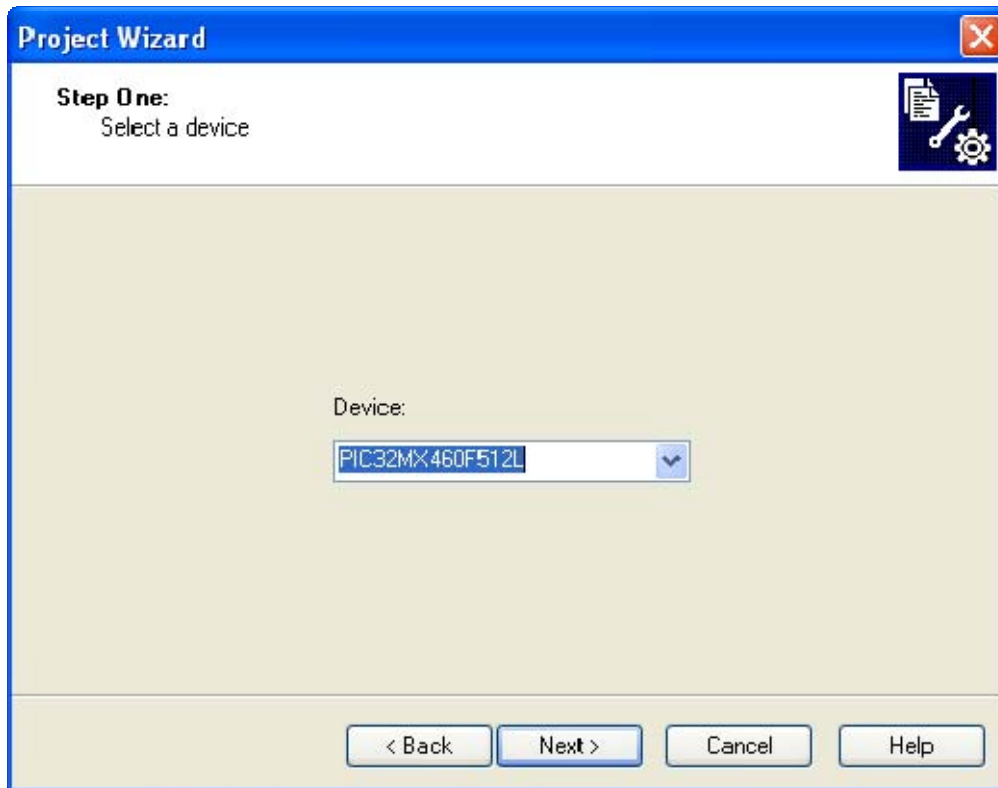

Figure 6: PIC32MX460F512L Device on Cerebot MX4cK
Step 4: Scroll through the “Device:” list and select “PIC32MX460F512L” (see Figure 6). Recall this is the same microcontroller that you will find on the Digilent Cerebot MX4cK Embedded Controller Board. Click the “Next >” button.